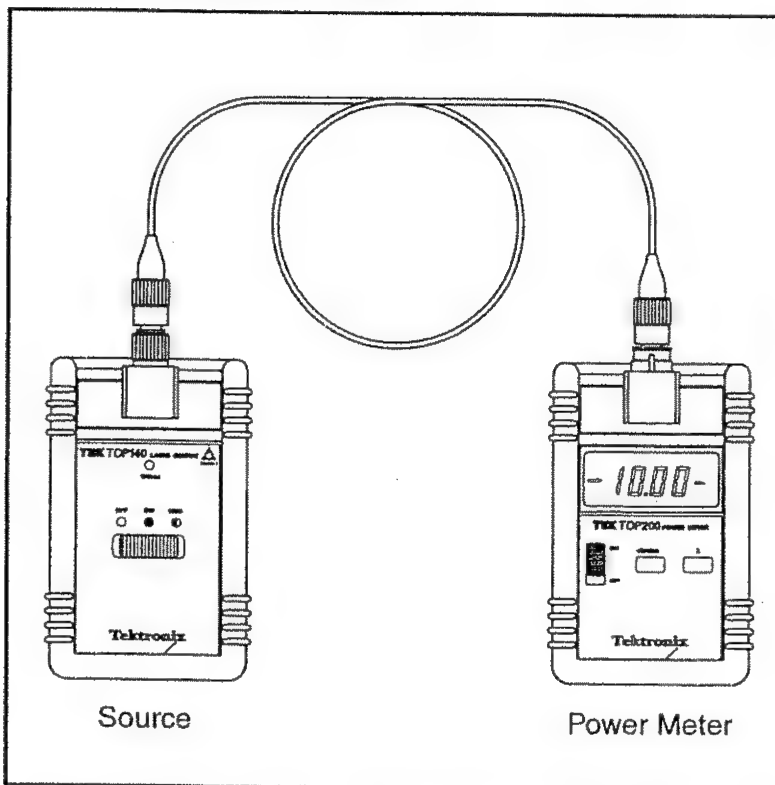

Fig 4.1 Initial Setup
- A) Connect the TOP source to the TOP power meter using a suitable reference cable, with a length of about 6-10 feet (2-3 meters) per Figure 4.1